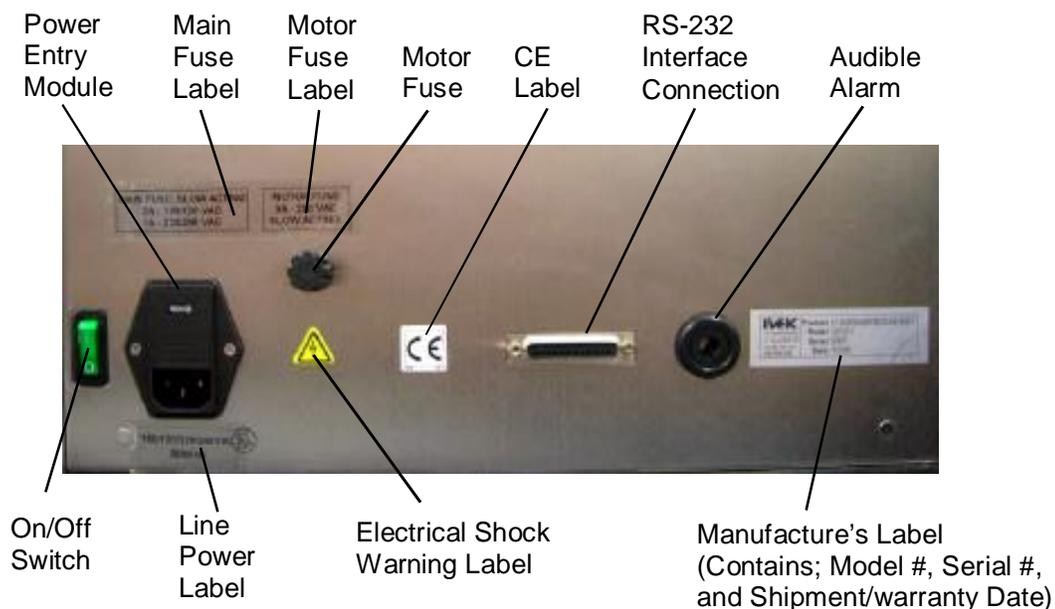

Figure 2.2 Rear Panel Connections and Labels
2.1.2 Rear Panel Detail (Refer to Figure 2.2)